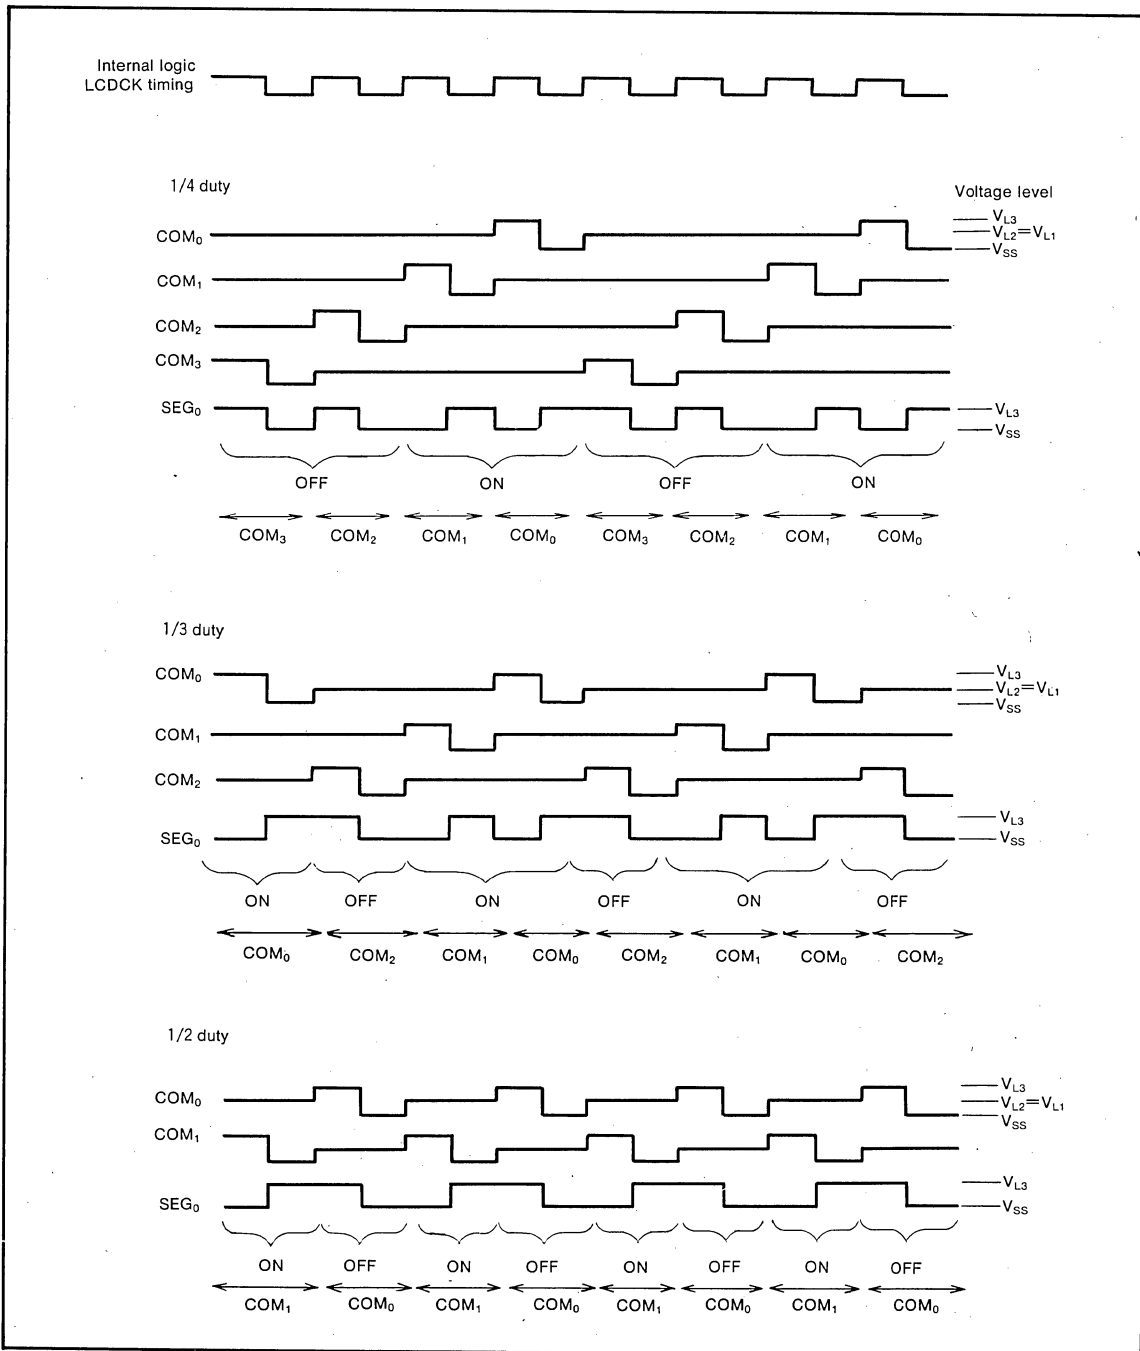
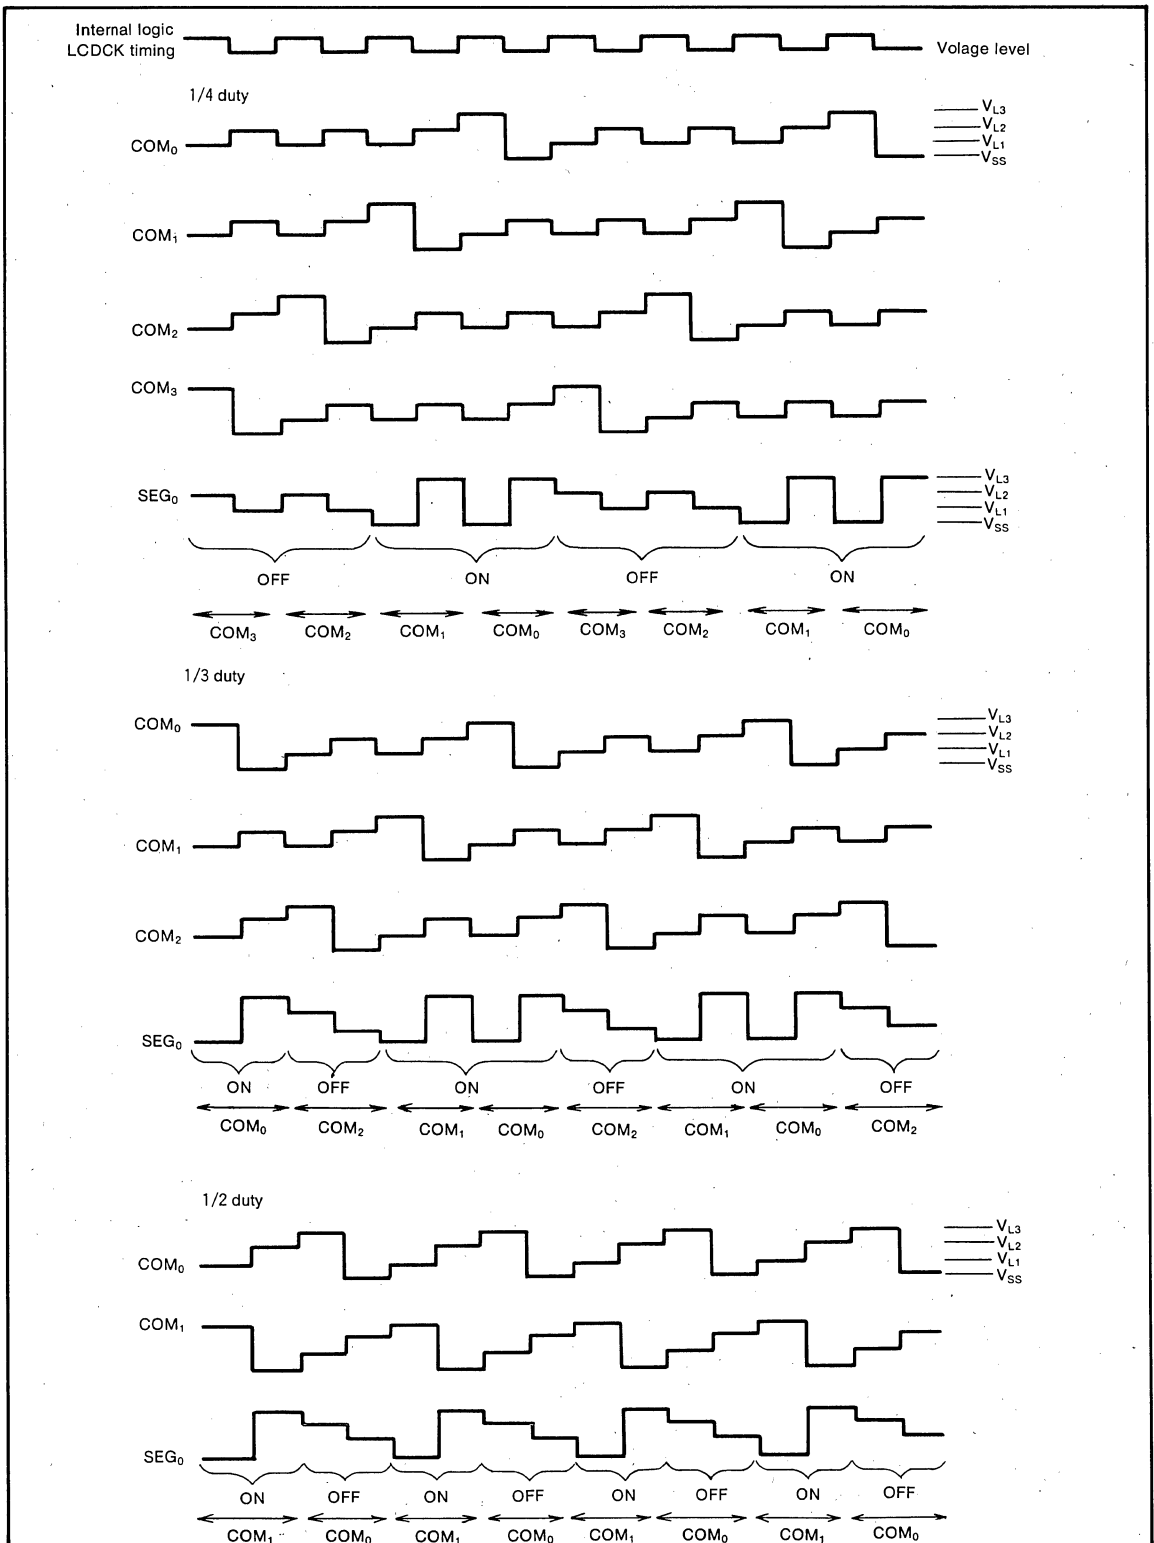

Fig.16 LCD drive waveform (at 1/2 bias)
Fig.17 LCD drive waveform (at 1/3 bias)
Address 00D016 ~ 00DF16 is the designated RAM for the LCD display. When 1s' are written to these addresses, the corresponding segments of the LCD display panel are turned on. A map of the LCD display RAM is shown in Figure 13. The ON/OFF function for the LCD controller is controlled by bit 3 of the LCD mode register (LM3). When this bit is "1" all the segments of the LCD are turned on. When this bit is "0" all the segments are turned off. An example circuit for each bias is shown in Figure 14 Figure 16 and Figure 17 describes the LCD driver waveforms for each bias and duty cycle.
- 2 : The voltage of  $V_{L1}$ , and  $V_{L2}$  are switched as following Fig. 16 automatically by bit 2 of LCD mode register.